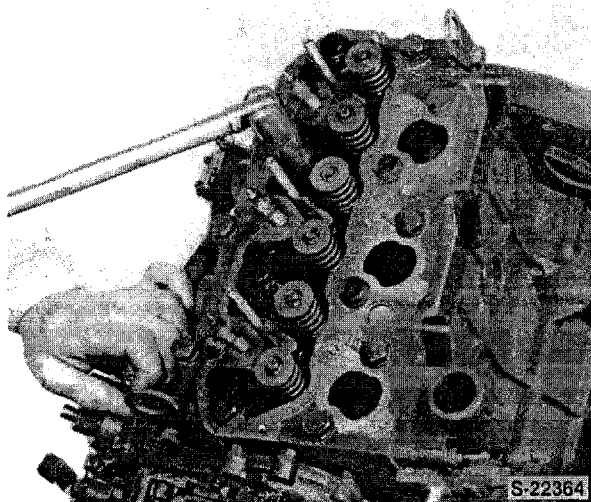

Figure 12
17. Remove the cylinder head bolts by alternately loosening a half turn at a time to prevent warping the head, Figure 12.